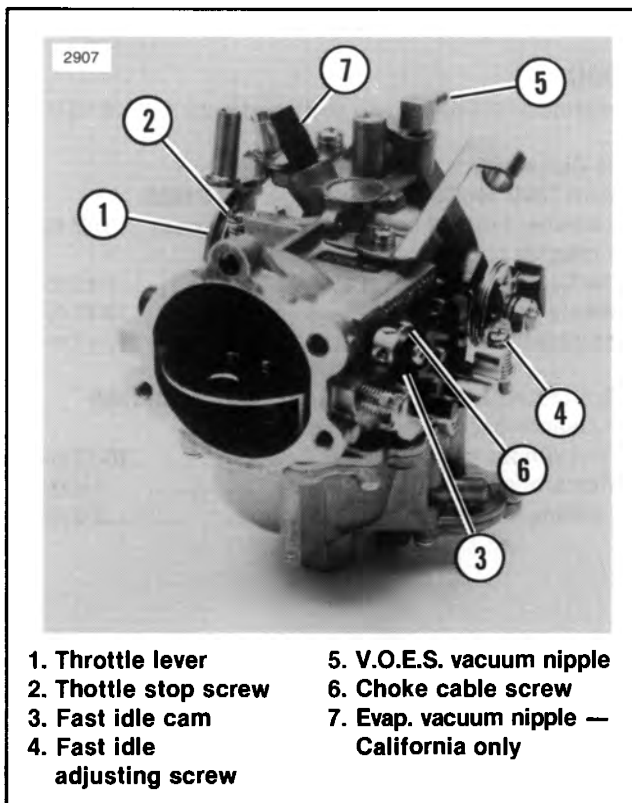

Figure 4-1. Carburetor
GENERAL (Figure 4-1)
With the engine at normal operating temperature and the choke knob all the way in (choke fully open), adjust the throttle stop screw (Figure 4-1) so the engine idles at 900-950 rpm for 1984-1987 models. Set idle to 1000-1050 rpm for 1988 models.
3. See Figure 4-1. Loosen choke cable screw.